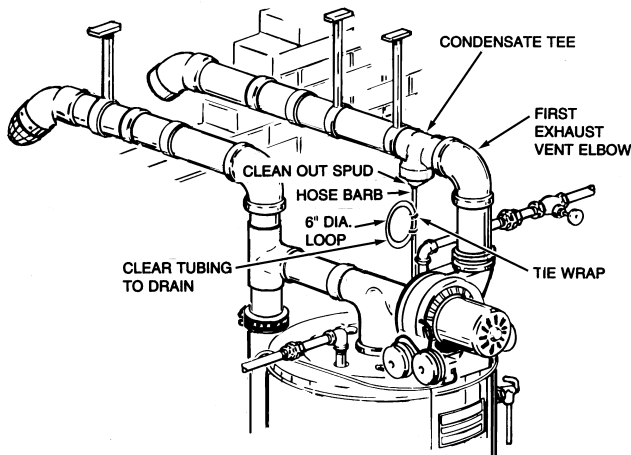

FIGURE 15
One method to catch the condensate before it can run back to the fan is to install a condensate tee just past the first elbow (fig. 15) of the vent pipe system. This set-up will require the installation of a small 3/8 inch O.D. plastic tube, with the proper trap, to drain the condensate to a floor drain. Therefore, a condensate tee is supplied with this unit.
To assemble condensate tee, please read the following instructions and refer to figures 15 and 16.
7. The vent system should be installed starting at the blower assembly discharge and running to the coupling installed to join the vent terminal on the inside wall (figures 15 & 16 for reference).